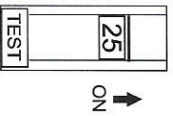

Figure 21. AC Circuit Breaker (ON)
- Place AC circuit breaker (Figure 21) in the **ON** position.